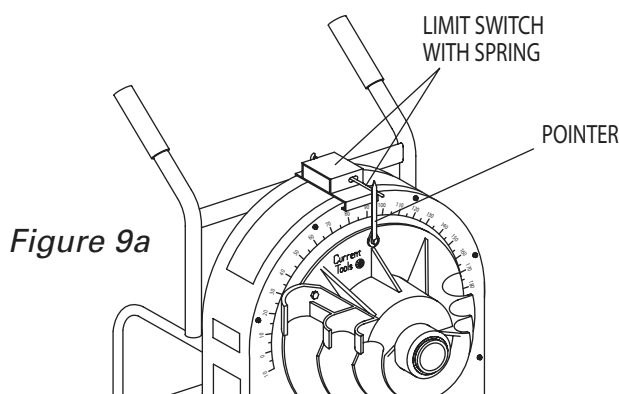

Figure 9a
4. Using the remote pendant, place the "Bend/Unload" switch in the "bend" position. Press the "Jog" button and advance the bender shoe. Be sure to check the alignment of the bending mark as the rotating shoe locks the pipe/conduit into position. Advance the bender shoe. When the pointer on the shoe reaches the limit switch, the bender will stop. See Figure 9A.